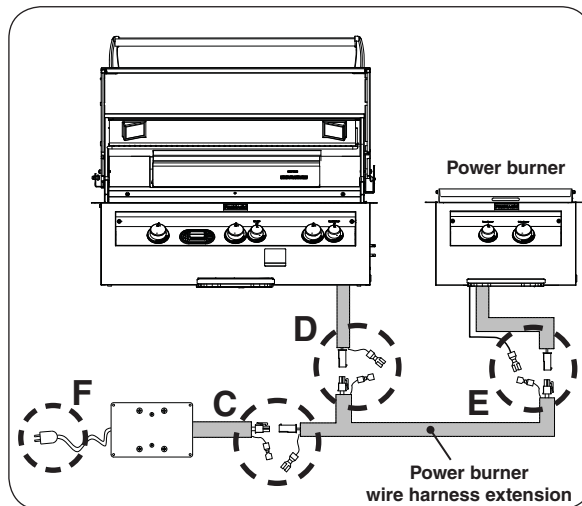

Fig. 13-3 Connect power burner to grill setup
3. Locate the end of the power burner wire extension that has two molex and ground connections. Connect the extension (plug) molex connection to the power supply (receptacle) molex connection and ground wires (See Fig. 13-3, **C**).
4. Connect the extension (receptacle) molex to the grill (plug) molex connection and ground wires (See Fig. 13-3, **D**).
5. Connect the opposite end of the extension to the power burner as shown in Fig. 13-3, **E** (molex and ground wire connections).
6. Reconnect the power cord (see Fig. 13-3, **F**).